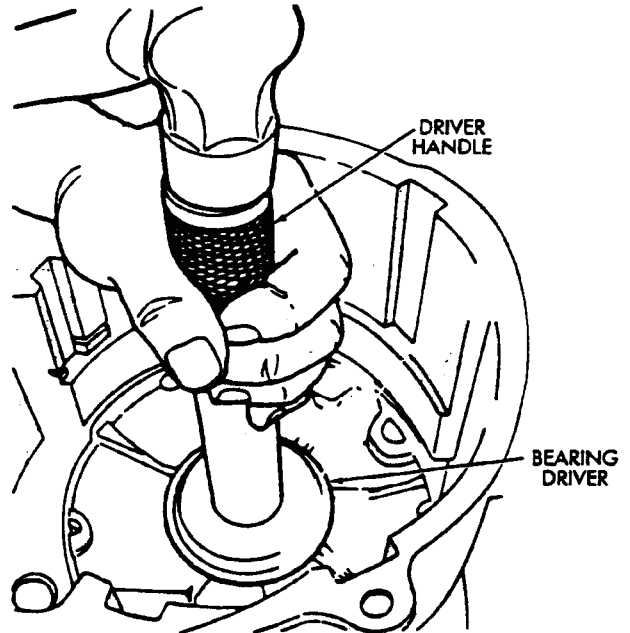

Fig. 4-27 Installing Rear Output Shaft Bearing
4. Install new rear shaft bearing with bearing driver tools (Fig. 4-27).